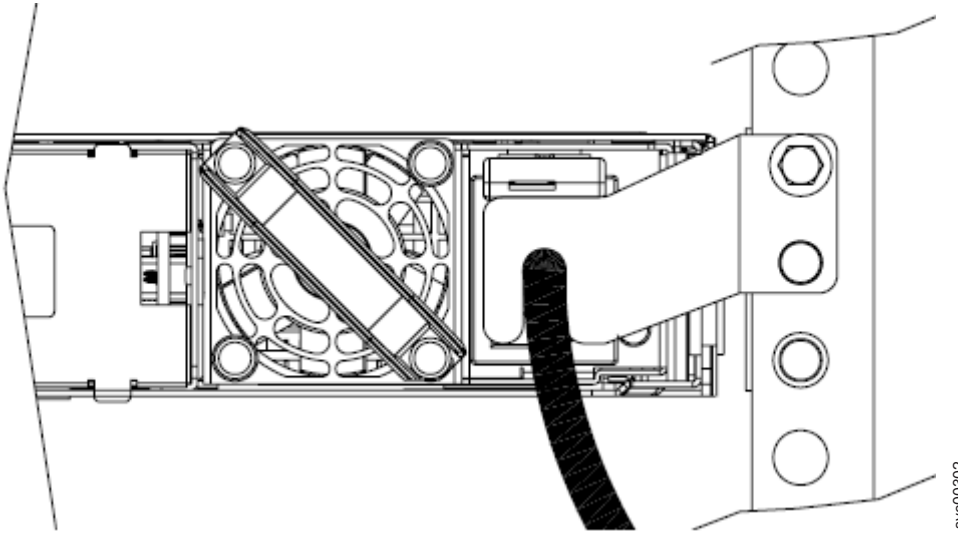

Figure 30. The SAN Volume Controller 2145-8G4 with cable-retention bracket type B attached
2. At the back of the cabinet, remove the securing bolt from the node side rail next to the power supply, as shown in Figure 30.